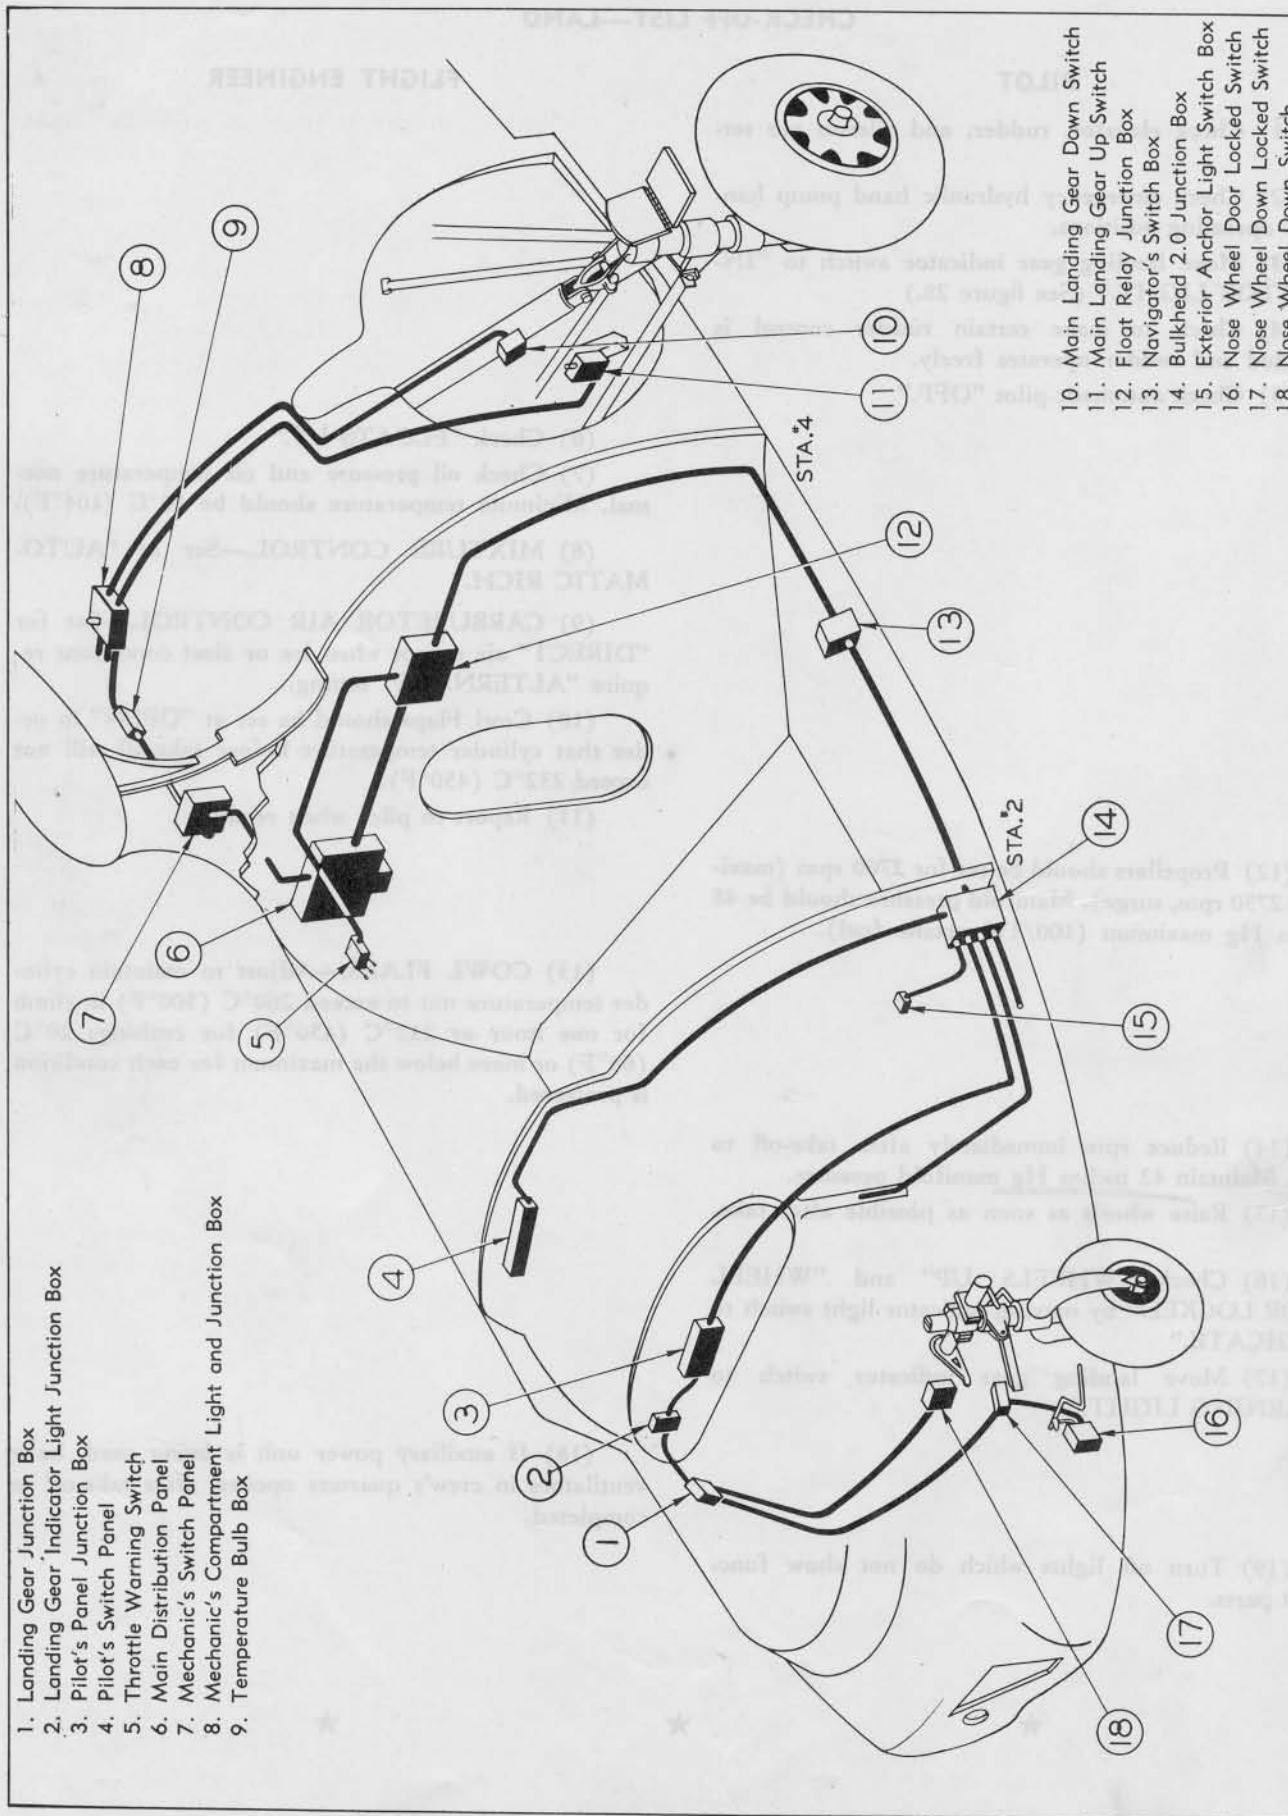

Figure 28—Landing Gear Indicator System
(1) Check elevator, rudder, and aileron tab settings.
(2) Check emergency hydraulic hand pump handle in operating positions.
(3) Move landing gear indicator switch to "INDICATOR LIGHT." (See figure 28.)
(4) Check to make certain rudder control is unlocked and rudder operates freely.
(5) Check automatic-pilot "OFF."
(12) Propellers should be set for 2700 rpm (maximum 2750 rpm, surge). Manifold pressure should be 48 inches Hg maximum (100/130 octane fuel).
(14) Reduce rpm immediately after take-off to 2550. Maintain 42 inches Hg manifold pressure.
(15) Raise wheels as soon as possible after take-off.
(16) Check "WHEELS UP" and "WHEEL DOOR LOCKED" by moving indicator light switch to "INDICATE."
(17) Move landing gear indicator switch to "WARNING LIGHT."
(19) Turn off lights which do not show functional parts.